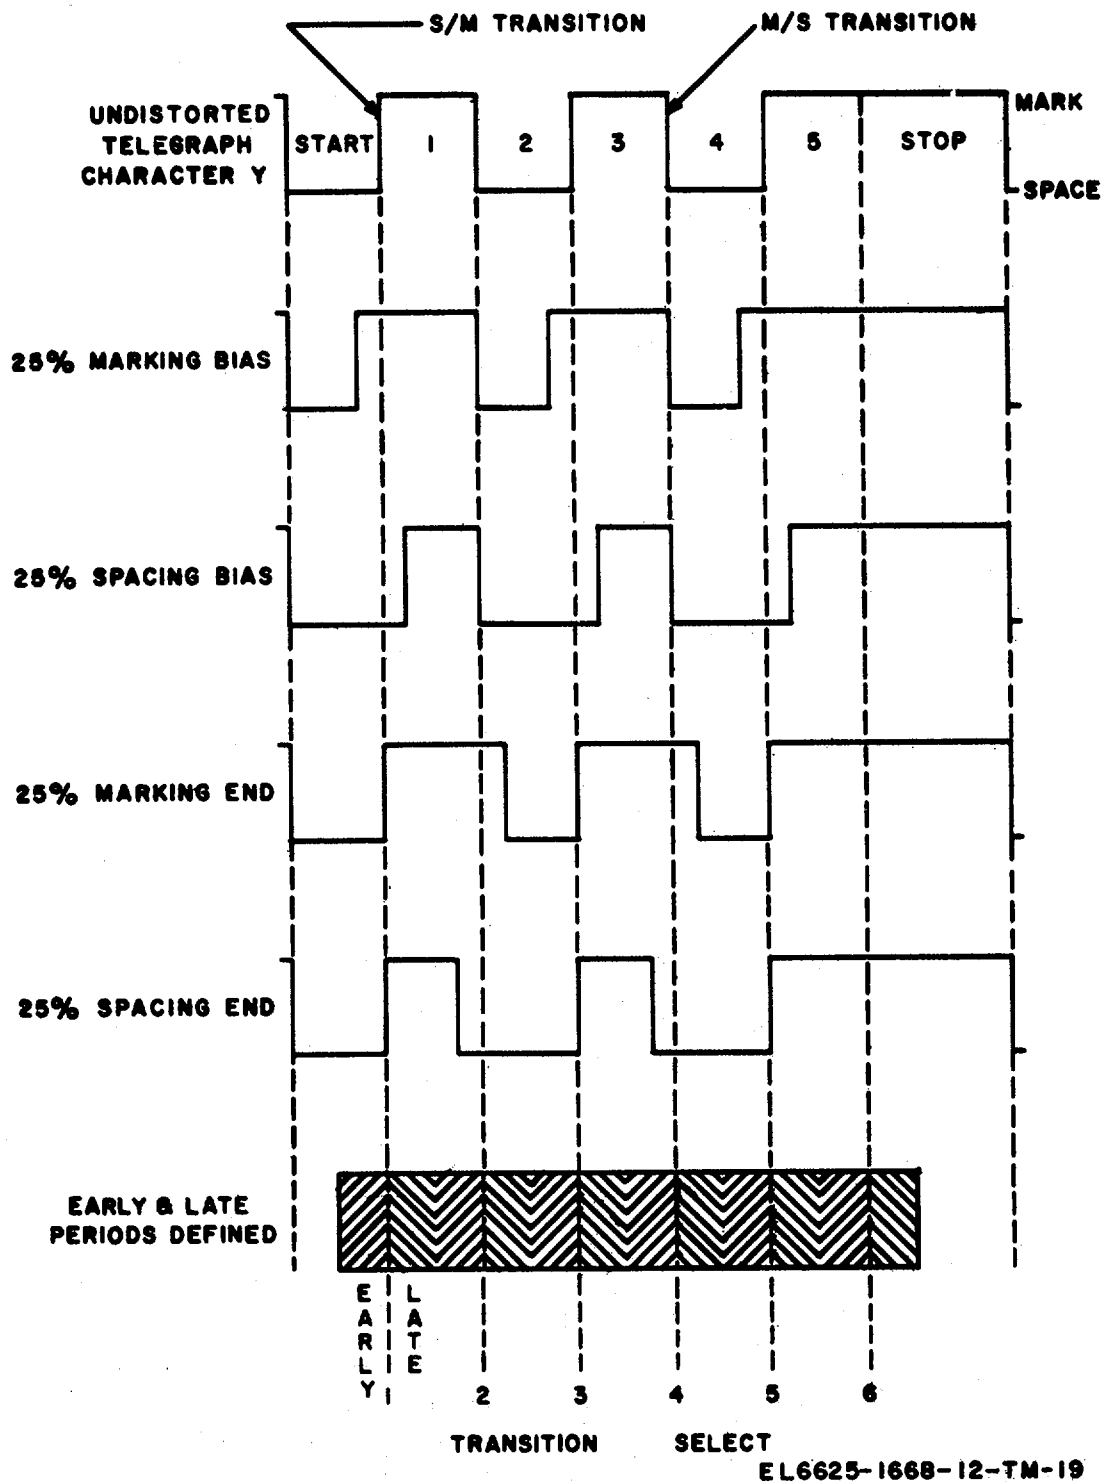

Figure 3-4. Types of distortion.
a. The basic types of distortion are marking-bias distortion, spacing-bias distortion, marking-end distortion and spacing-end distortion. Bias distortion is that which results in the displacement of the space-to-mark transition. End distortion is that type of distortion which causes the displacement of the relative mark-to-space transition to the first mark-to-space signal transition (start pulse) with no significant effect on the space-to-mark transition. End distortion is associated with start-stop signals only. These types of distortion are illustrated in figure 3-4.